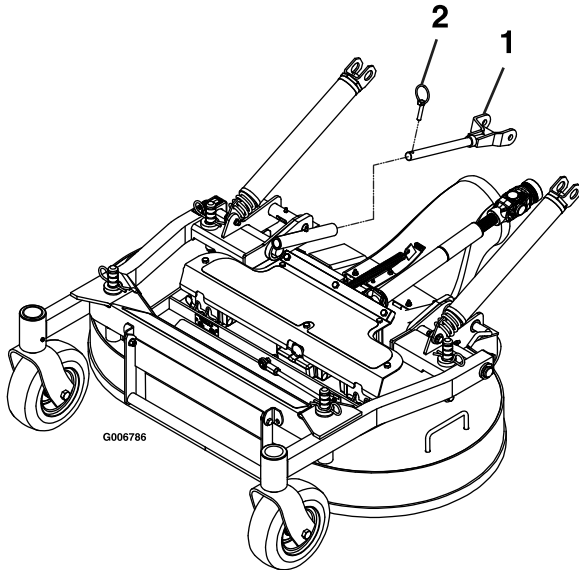

Figure 76
6. Remove the lynch pins at front of push arms on both sides of the machine (Figure 76).
6. Secure the push arms with the lynch pins on the left and right sides of the machine (Figure 76).